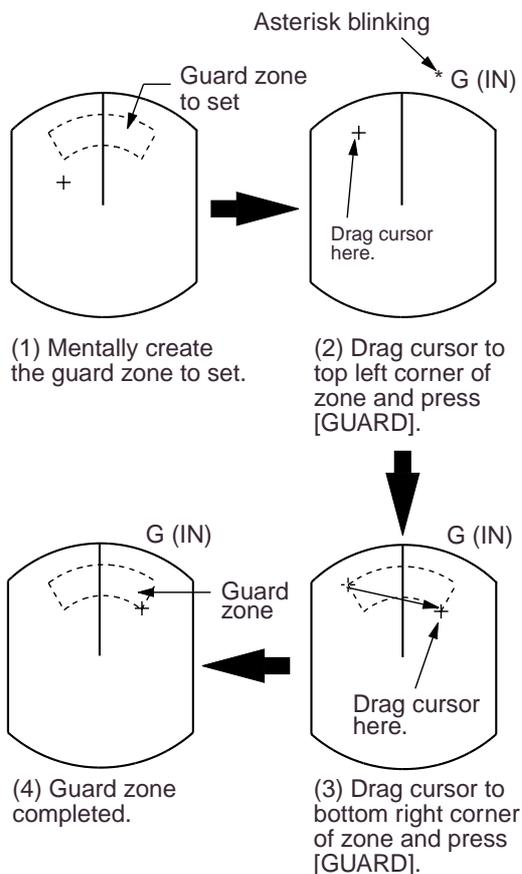

Figure 2-15 How to set a guard zone
1. Mentally create the guard zone you want to display. See Figure 2-15 (1).
2. Operate the omnipad to set cursor on top (bottom) left edge of the guard zone. Press the [GUARD] key. *G (IN) (or G (OUT)), with asterisk blinking, appears at the top right-hand corner on the display. (The asterisk indicates the guard zone is partially set.) See Figure 2-15 (2).
3. Operate the omnipad to set cursor on bottom (top) right edge of the guard zone and press the [GUARD] key. The asterisk disappears. See Figure 2-15 (3).
4. Guard zone appears on the display. See Figure 2-15 (4).